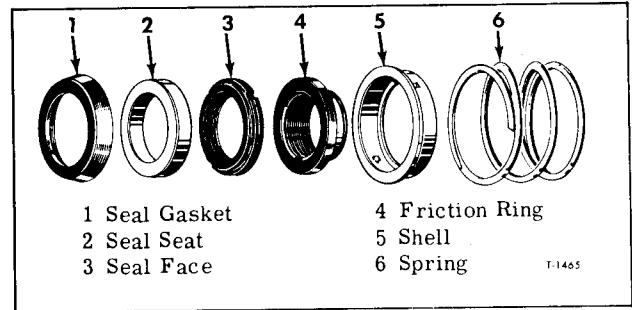

Figure 19—Hydraulic Pump and Motor Shaft Seal Components
2. Remove retaining ring (14).
3. Remove bolts (12) which secure pilot (16) to mounting housing (11). Slide pilot (16) with seal seat and gasket out of housing and off shaft (15).
5. Using fingers, remove seal face (fig. 19) from shaft. Do not use metal tools as edges of seal face may be chipped.
6. Using needle-nosed pliers, remove shell, friction washer, and spring (fig. 19) from shaft.
7. Remove lathe cut washer (18).
9. Through ports in housing (8), loosen the socket-head cap screws (5). Loosen the counter-bore screws (7) which hold pump components together.
10. Insert punch in dowel holes of mounting housing (11) and drive out two dowel pins (2).
12. Using a soft lead hammer, tap alternately on ears of the two housings (8 and 11) to gradually separate the pump sections. The port housing (8) must be removed first, then remove the spacer plate and gears (9) with idler shaft (6). Drive shaft (15) cannot be removed from mounting housing (11) until gear key (10) has been removed.
5. Inspect all of the components of drive shaft seal assembly (fig. 19). Use a new seal assembly when assembling pump if any of the parts are found to be defective or damaged.
7. Through port openings in housing (8), install socket head cap screws (5). Tap housings with lead hammer as cap screws (5) are tightened to seat the housings at spacer plate.
8. Install cap screws (7) and tighten with socket wrench.
9. Referring to figure 19, place seal seat (2) in gasket (1) and install these two parts in recess in pilot. Lapped surface on seal seat must face outward. Be sure seat gasket is down against bottom of counterbore in pilot (16).
10. IMPORTANT: Check exposed surfaces of drive shaft (15) for burrs and sharp edges. If necessary use polishing stone to smooth edges. Apply light engine oil on exposed end of shaft.
11. Referring to figure 19 for key numbers used in this step, assemble seal parts as follows:
a. Insert friction ring (4) inside of shell (5) so that large lip of friction ring (4) is seated beneath the two lugs in I.D. of shell (5).
b. Slide spring (6) over shell (5) until spring is seated at shoulder on shell.
1. Remove key (1) from drive shaft (22).
2. Remove bolts (21) which attach pilot (4) to mounting housing (6). Slide pilot with seal seat and gasket out of housing and off end of shaft (22).
3. Remove seal gasket and seal seat (1 and 2, fig. 19) from recess in pilot (4).
4. Using fingers, remove seal face (3, fig. 19) from shaft. Do not use metal tools as the seal face edges may be chipped.
5. Using needle nose pliers, remove shell, friction washer, and spring (4, 5, and 6, fig. 19) from shaft.
6. Remove lathe cut washer (3).
8. Remove the four valve block bolts (18), then separate valve block assembly (16) from port housing and remove four plastic shims (15). Remove O-ring (17) from groove in port housing.
9. Loosen the two cap screws (14), four cap screws (8) and lock washers (9), and four counter-bore screws (20) which attach the port housing (12) to mounting housing (6).
10. Insert punch in dowel holes of mounting housing (6) and drive out two dowel pins (10).
5. Inspect all components of drive shaft seal assembly (fig. 19). Use a new seal assembly when assembling motor, if any of the seal parts are found to be defective or damaged.
4. Support mounting housing and drive shaft assembly with spacer plate side facing upward. Lubricate idler gear and shaft with light weight engine oil, then insert one end of idler shaft into bearing in mounting housing. Install gear on drive shaft with keyway in gear engaged with key (19).
5. Install spacer plate (11) with dowel pins (10) fitting into holes in mounting housing and alignment mark (made when disassembling) indexed with mark on mounting housing (6).
6. Referring to mark made at disassembly, install port housing assembly (12) over ends of shafts (5 and 22) and dowel pins (10).
7. Through port openings in housing (12), install socket head cap screws (14), tightening screws alternately and gradually until motor parts are firmly seated.